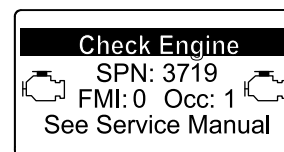

Figure 49
- Engine warning SPN 3719, FMI: 0 (Figure 49)